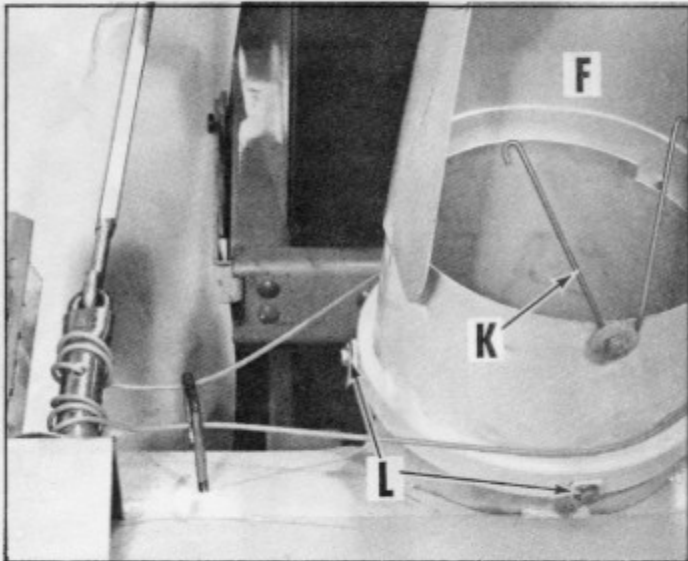

Fig. 7
bolt and concave tooth washer, thread through guard stop (K) into deflector assembly. Secure with lock nut. (Fig. 7)